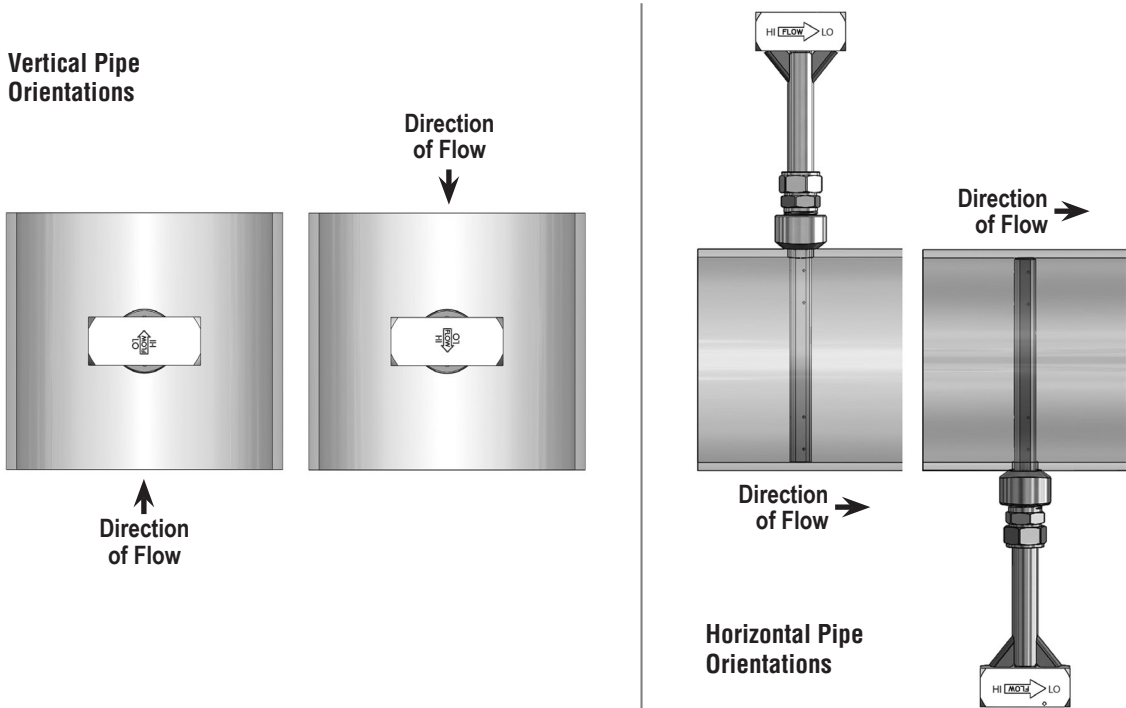

Figure 4. Orientation of Flow Arrow
- Align the head of the sensor so that the arrow labeled "flow" on the head is in the direction of the flow in the pipe to within 3° (Figure 4). Maintain the head in this position for the remainder of the installation.